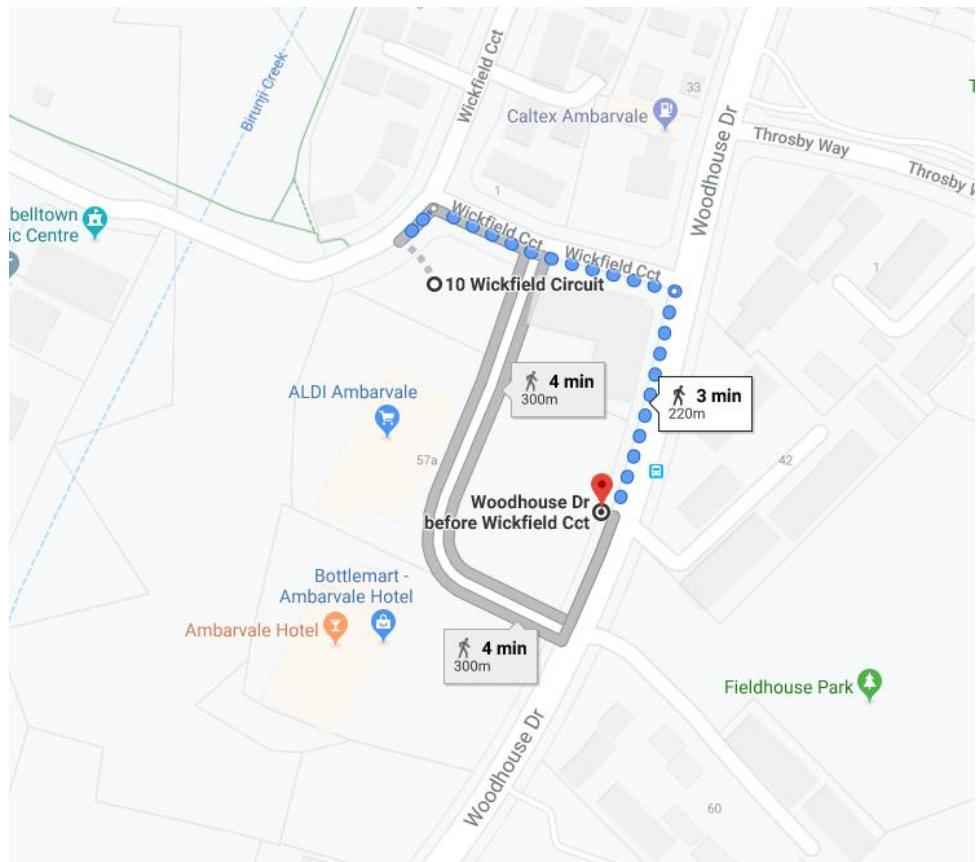

Figure 2-1 Subject Site to nearest bus stop
1. It takes 3 minutes walking (220m) from the site to Woodhouse Dr before Wickfield Cct bus stop (refer to Figure 2-1).